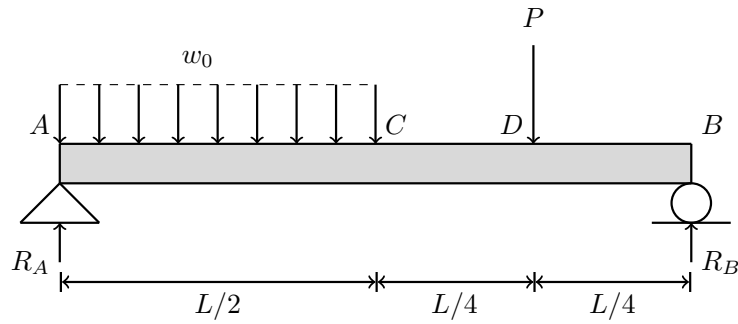

Figure 8
5. Consider a simply supported beam of length L subjected to applied load as shown in Fig. 8. Calculate the reaction forces, shear force, and bending moment at any point along the beam.